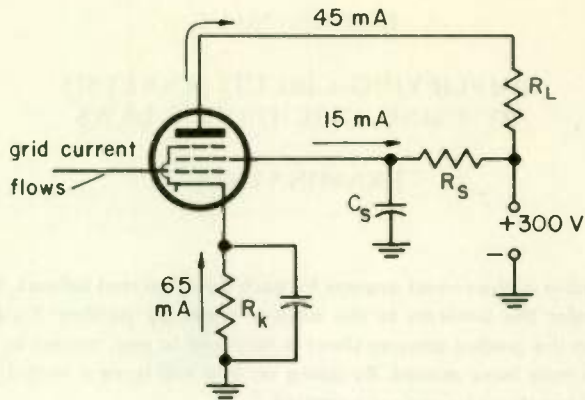

Fig. 42
3. Although tubes are generally operated so that no grid current flows, you will learn later that in some important types of operation (such as class C), grid current does flow. Find the value of the grid current in Fig. 42.